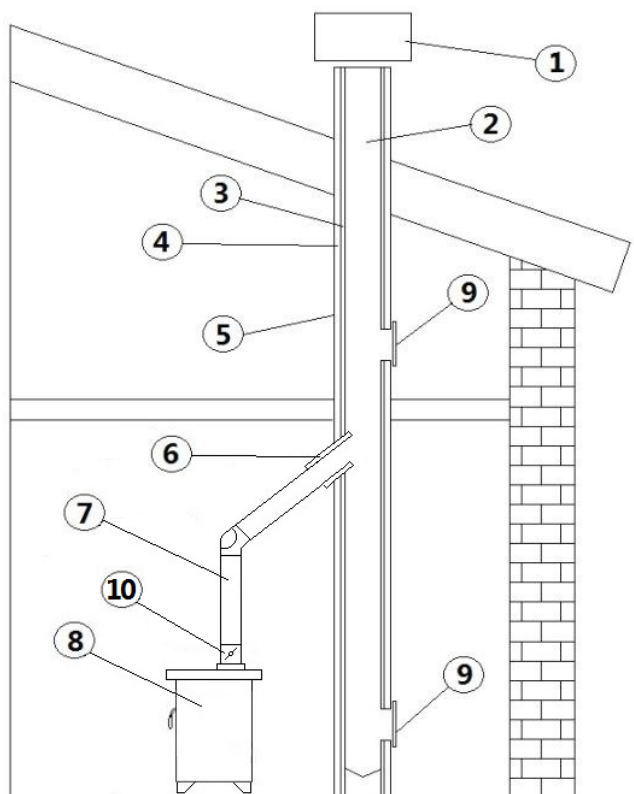

Fig. 4 - Chimney components
- We recommend using an anti-wind chimney pot, see **Fig. 4 page 7**.
- External chimney flue entirely made up of insulated stainless steel pipes, i.e. with double wall of minimum $\varnothing 150$ mm: all must be firmly attached to the wall. For chimney against wind effects please (see Fig. 4 page 7).